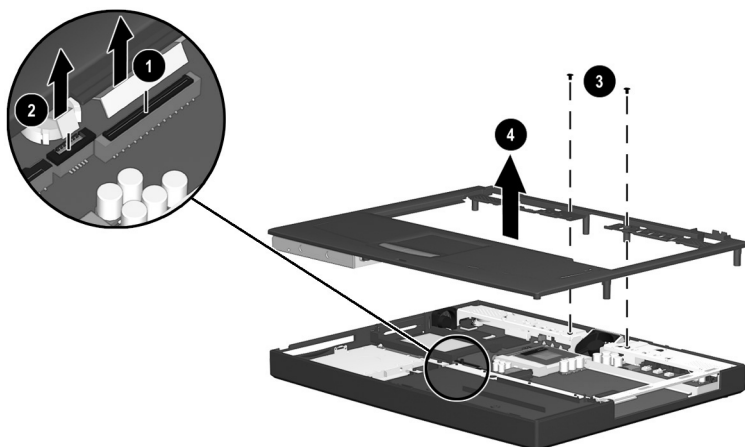

Figure 5-16: Removing the Top Cover
5. Disconnect the diskette drive cable from the low insertion force (LIF) connector on the system board ❶ (Figure 5-16).
6. Disconnect the TouchPad cable from the LIF connector on the system board ❷.
7. Remove the two M2.5 × 4.5 screws securing the top cover to the base enclosure ❸.
8. Lift the top cover straight up to remove it from the base enclosure ❹.